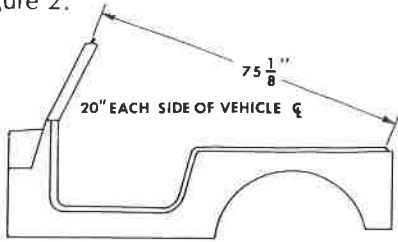

FIGURE 2
B. (5107 Top) Adjust CJ-7 windshield as shown in Figure 2.